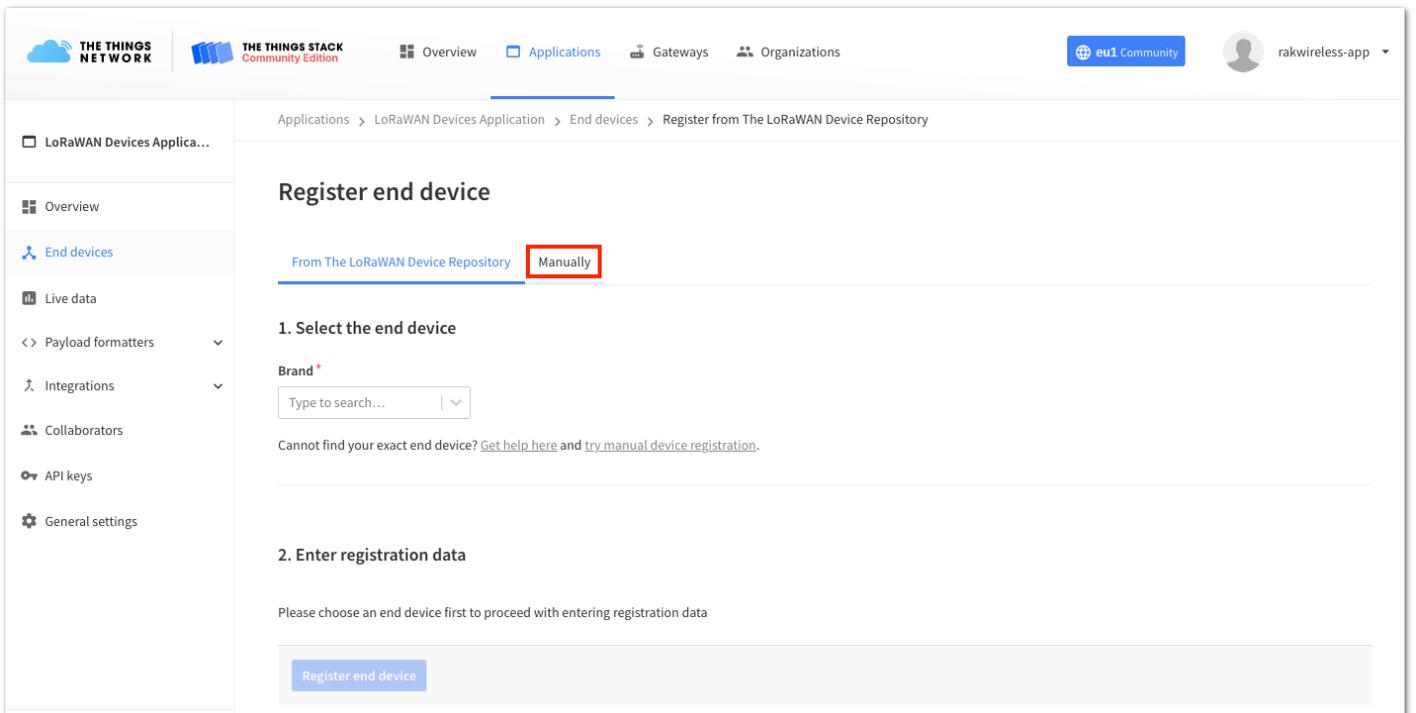
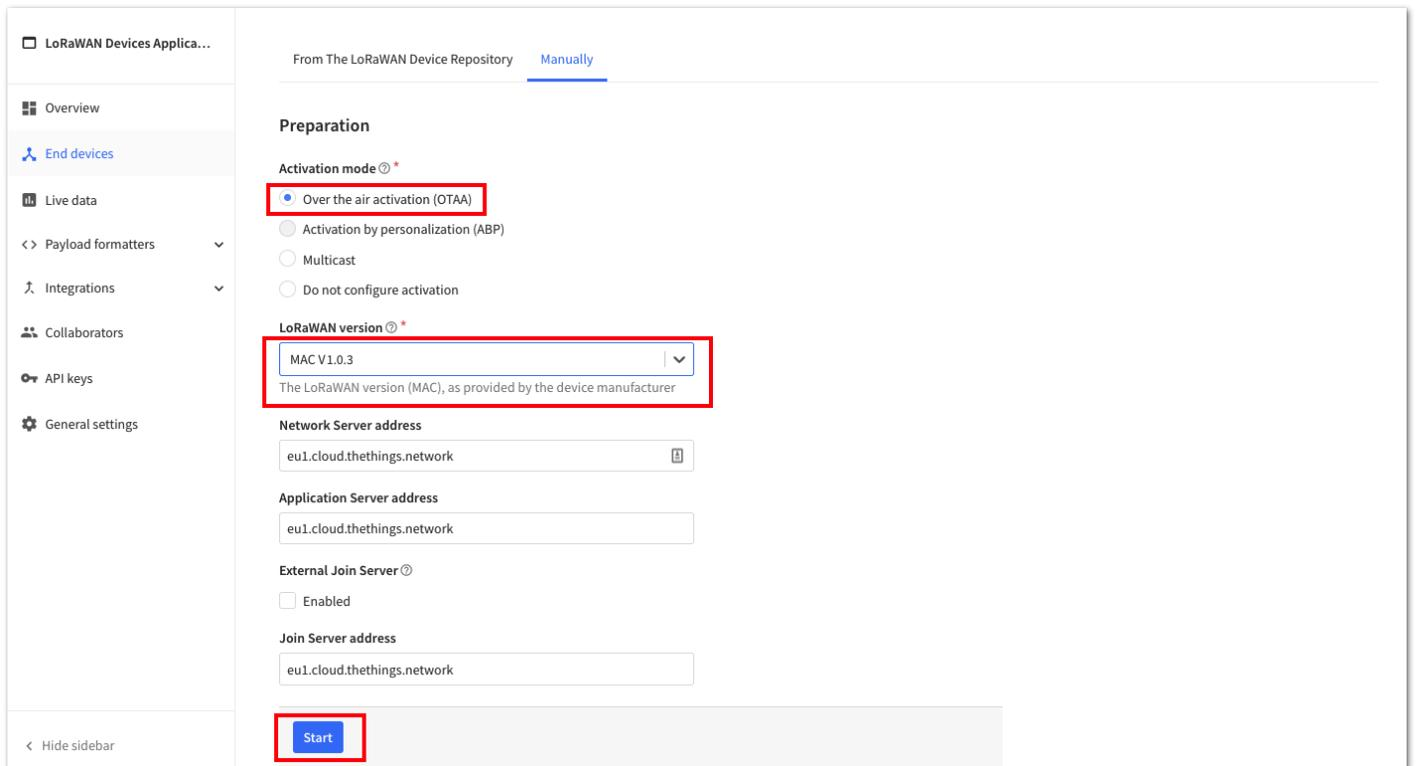

Figure 47: Manually register device to TTN
Figure 48: Device activation configuration
2. To register the module, click first **Manually** then configure the activation method by selecting **Over the air activation (OTAA)** and compatible **LoRaWAN version** then click the **Start** button, as shown in **Figure 47** and **Figure 48**.